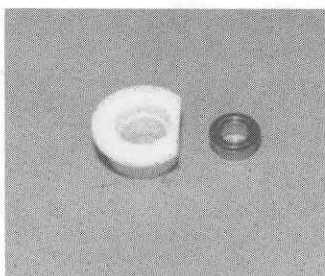

Fig. 56
- ☐ **Fig. 56** If you're installing ball bearings, install it in the adaptor.